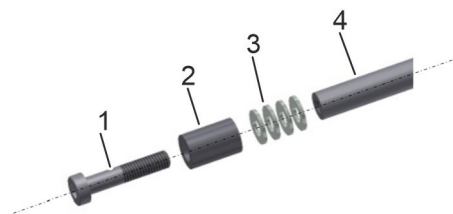

Fig. 13: Measuring rod
- 1.** → Screw the 5.3 mm washers (Fig. 13/3) and spacer ring (Fig. 13/2) using the M5 bolt (size 4) (Fig. 13/1) onto the measuring rod (Fig. 13/4). Torque 8 Nm. Counter the measuring rod with the size 6 open-end spanner while doing so.